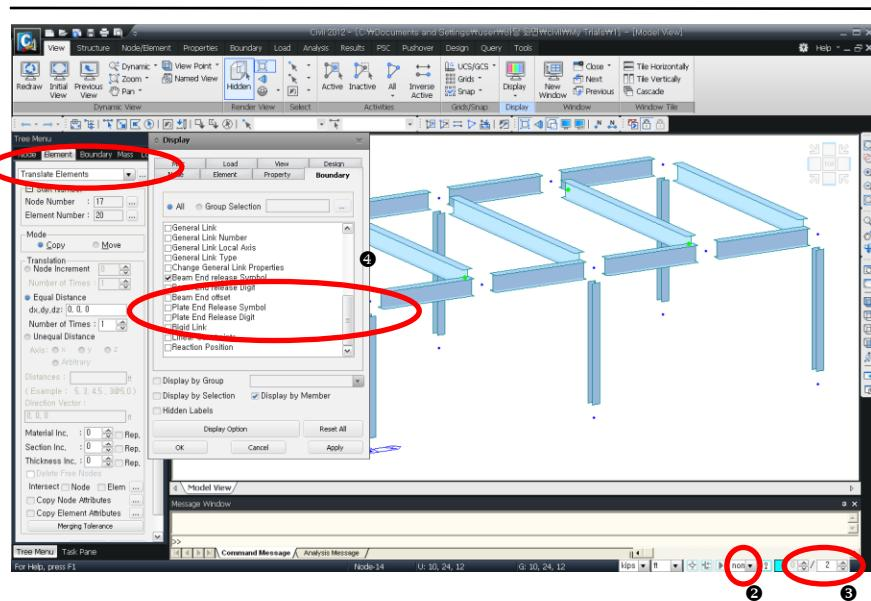

Figure 1.11 Generation of Girders and Beams
Even if Node Number is not toggled on, the attributes of snapped nodes can be easily verified using Fast Query (Fig.1.11-②).
Civil allows mouse snap at the centers of the elements as well as any particular point in the elements by using Snap located at the bottom of the screen (Fig.1.11-③).